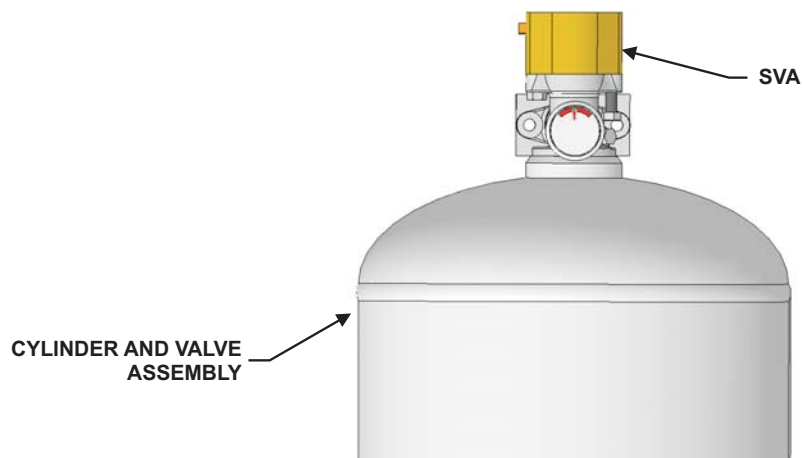

Figure 5-5. System Valve Actuators
7. Remove the System Valve Actuators (SVAs, P/N 87-120042-001) from all cylinders. See Figure 5-5 for location.